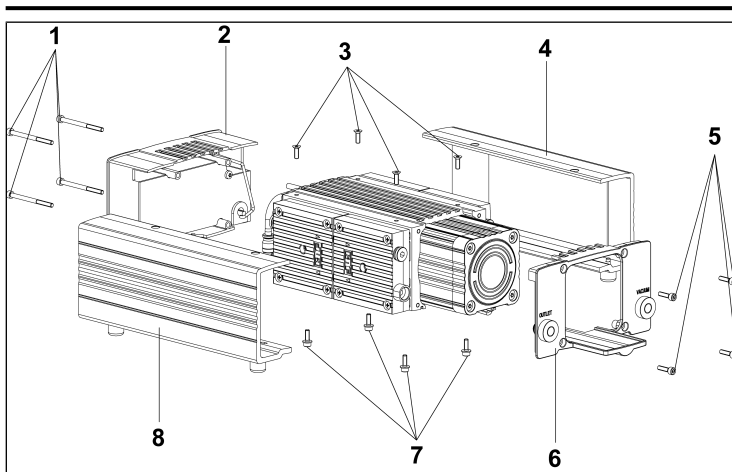

Fig. 4: Removing the pump housing
1. Loosen the screws (1/Fig. 4, 3, 5 and 7) and take off the pump housing parts (2/Fig. 4, 4, 6 and 8).
1. Mount the pump housing parts (**2**/Fig. 4, **4**, **6** and **8**) on the pump and tighten screws (**1**/Fig. 4, **3**, **5** and **7**).